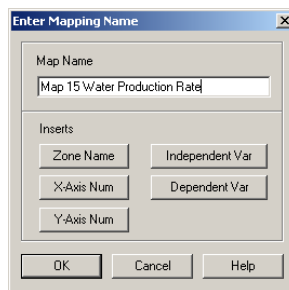

Figure 8-4. The Enter Mapping Name dialog.
2. Click Map Name, then select Edit Name. The Enter Mapping Name dialog appears, as shown in Figure 8-4.